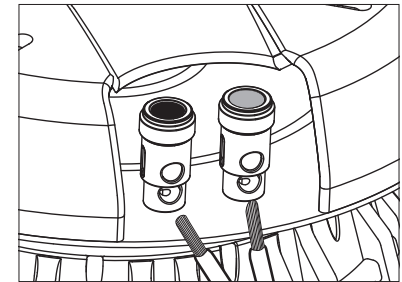

Figure 3. Spring-loaded speaker wire connectors.
8. The speaker has black and red spring-loaded connectors (**Figure 3**). Black is for the negative (-) wire and red for the positive (+). It is important to observe correct wiring polarity. If you have wire other than black and red, make sure you connect it the same on the amplifier end as the speaker end. Failure to do so will adversely affect the loudspeakers' performance.